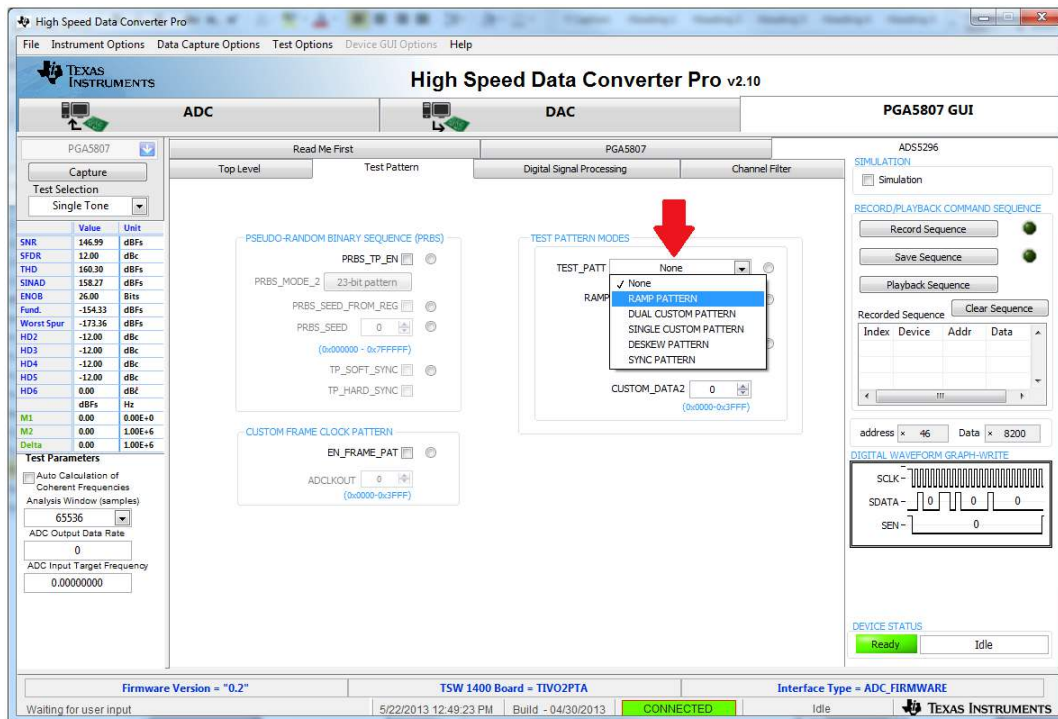

Figure 32. ADS5296A Setup for RAMP Test
1. Within the *ADS5296* tab, press on the sub-tab labeled *Test Pattern* and select **RAMP PATTERN** within the **TEST_PATT** menu as shown in Figure 32.